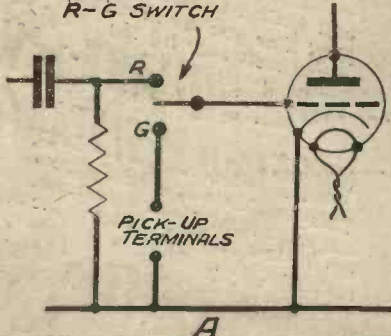

Fig. 1 (A).—The simplest method of joining a pick-up in the detector circuit.
all-A.C. receivers of the same type as our "Mains Express Three." The simplest way is to join one lead to the grid of the detector valve and the other to a convenient H.T. negative lead. Before making the connection, the wire joining the grid condenser to the grid of the valve-holder should be removed. When a pick-up is to be used fairly frequently, it is much better to fit a pair of terminals and a suitable radiogram switch as shown at (A) in Fig. 1. It is important that the switch should be mounted near to the valve-holder in order to avoid long connecting wires. The above method, although very simple, is only satisfactory when the pick-up is of a fairly insensitive pattern. With a sensitive instrument, distortion would occur due to the absence of grid bias on the detector valve (which is now acting as an L.F. amplifier). This latter difficulty can easily be overcome by altering the connections as shown in Fig. 1 (B). A bias resistance and shunt condenser are wired between the cathode terminal of the valve-holder and H.T.—whilst the grid leak is joined directly to the cathode terminal. The result is that the valve becomes negatively biased immediately the switch is turned to the "Gram." position, but the bias is moved on changing over to "Radio." Any resistance of from 300 to 500 ohms will provide a suitable bias voltage for the average type of indirectly-heated detector valve, whilst the by-pass condenser should have a capacity in the region of 1 microfarad.